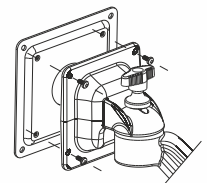

Fig. 4
4. For Vesa 100 mm model screw the 100 mm plate to hanging bracket with M4 screws as shown in Fig. 4.